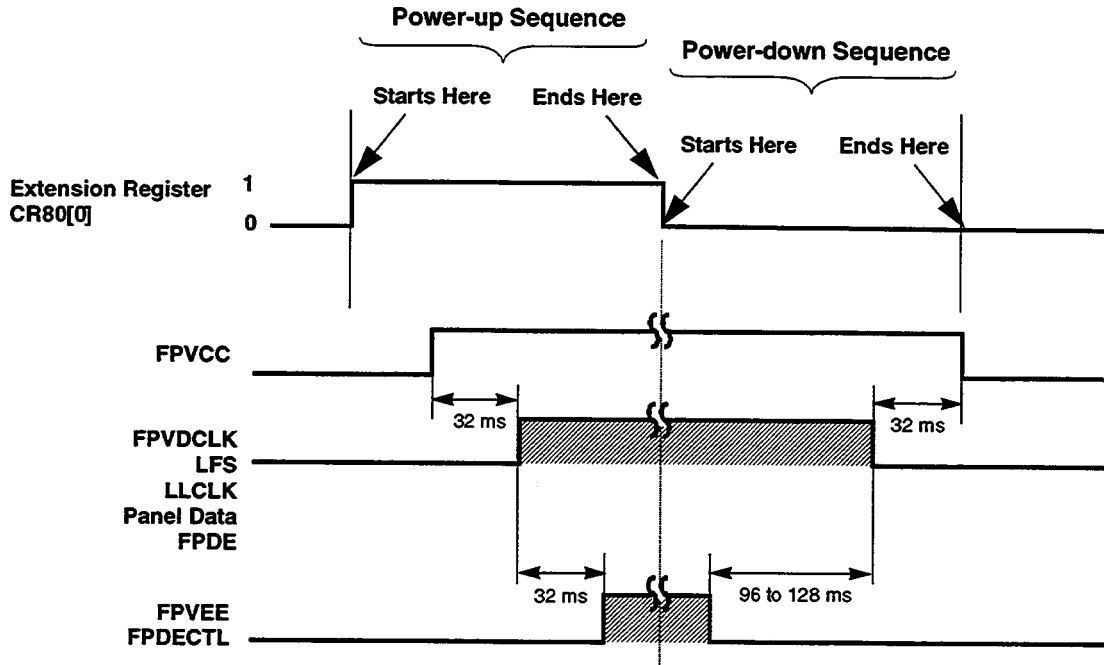

Figure 4-1. Normal Power-Up/Power-Down Sequence
- a. If the power sequence matches that in Figure 4-1, go to the next step.
- b. Otherwise, if the power sequence does not match Figure 4-1, call Cirrus Logic.
This section discusses the CL-GD7555 power-up and power-down sequences for the LCD. Figure 4-1 shows these sequences: